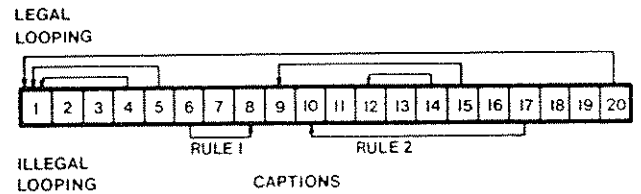

FIGURE 3
- a. The following rules apply when looping. See Figure 3.